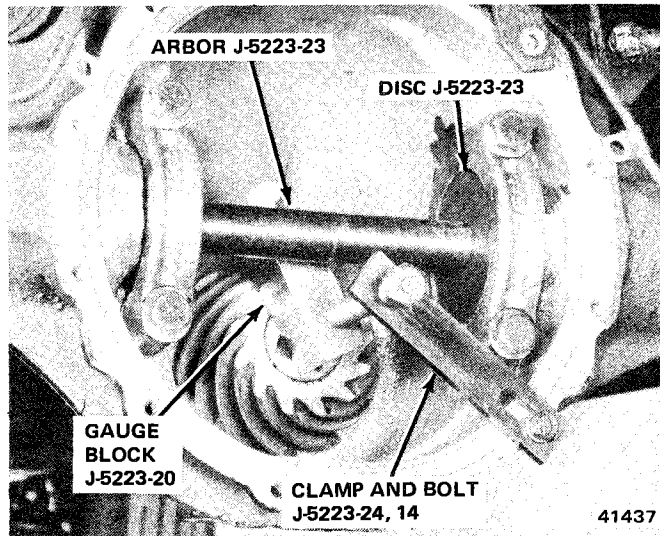

Fig. 2F-38 Installing Pinion Depth Gauge Tools
(15) Assemble and mount Clamp J-5223-14 and Bolt J-5223-24 on axle housing (fig. 2F-38). Use axle housing cover bolt to attach clamp to housing.